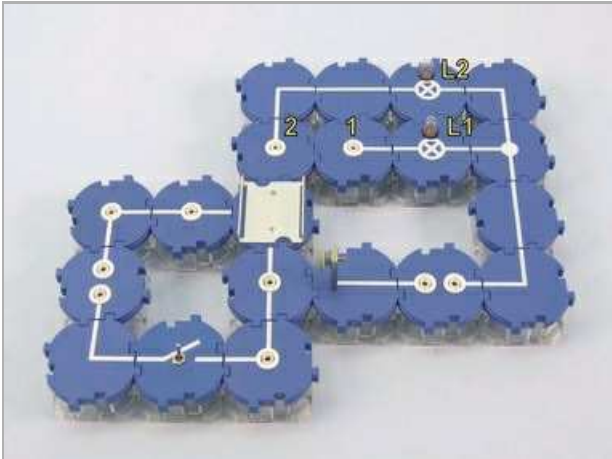

Fig. 1
- Set up the experiment as shown in Fig. 1 and Fig. 2.